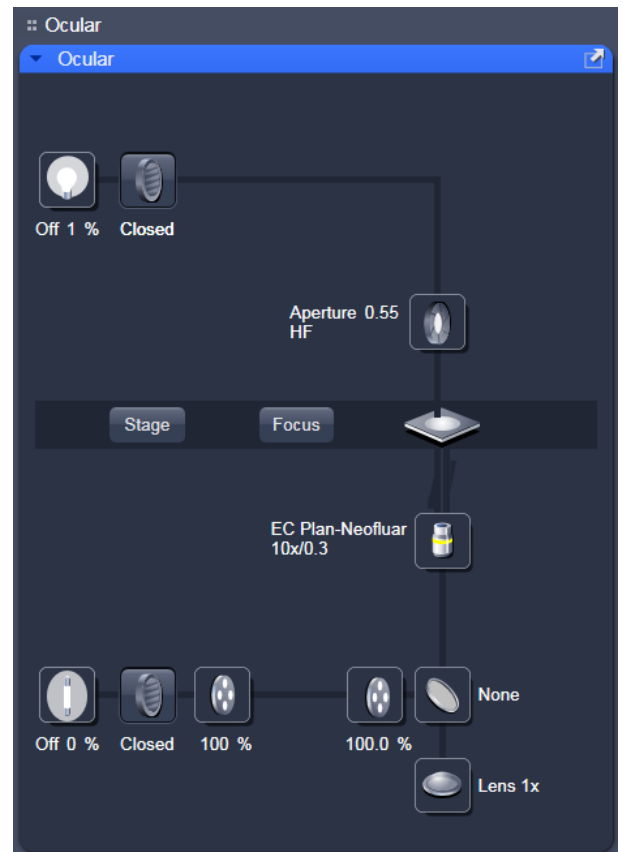

Fig. 11 Microscope Control window, e.g.: Axio Observer
Click on the **Locate** tab for direct observation; press the **Online** button for your actions to take effect immediately. Then open the **Ocular** tool to configure the components of your microscope like filters, shutters or objectives (Fig. 11).
- Open the graphical pop-up menu by clicking on the **Objective** symbol and select the objective lens for your experiment (Fig. 11).